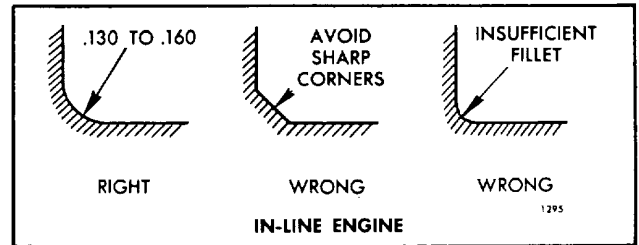

Fig 7. Crankshaft Journal Fillets
3. All journal fillets must have a .130" to .160" radius between the crank cheek and the journal and must not have any sharp grind marks (Fig. 7). The fillet must blend smoothly into the journal and the crank cheek and must be free of scratches. The radius may be checked with a fillet gage.